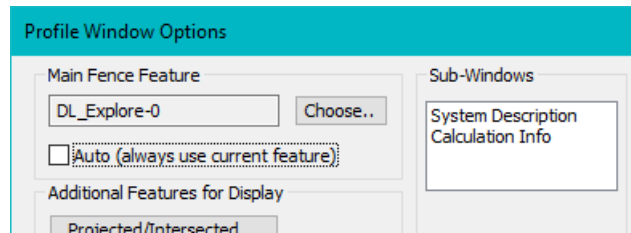

Figure 12-32: Profile Window Options with an explicit fence feature.
- Press the *Options* button to open the shared *Profile Window Options* dialogue (Figure 12-32 below).